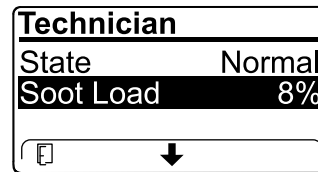

Figure 67
- View the soot load which is measured as the percentage of soot in the DPF (Figure 67); refer to the soot-load table.